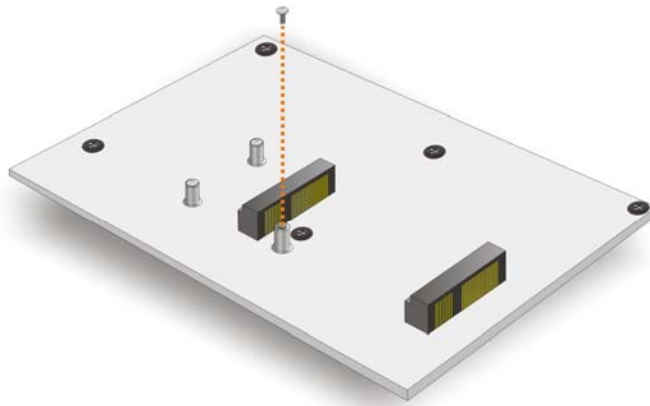

Figure 4-10: Remove the Retention Screw for the Full-size PCIe Mini Card
- Step 2:** **Remove the retention screw.** Remove the retention screw secured on the motherboard as shown in **Figure 4-10**.